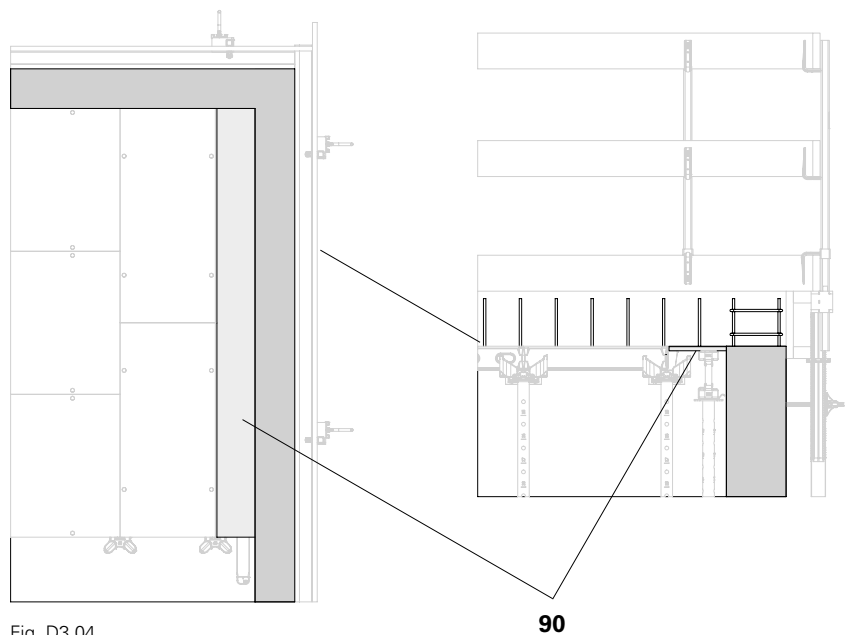

Fig. D3.04
8. From below, screw the filler plate into place through the screw holes provided in the filler support using Torx 5 x 15 screws. (Fig. D3.04)